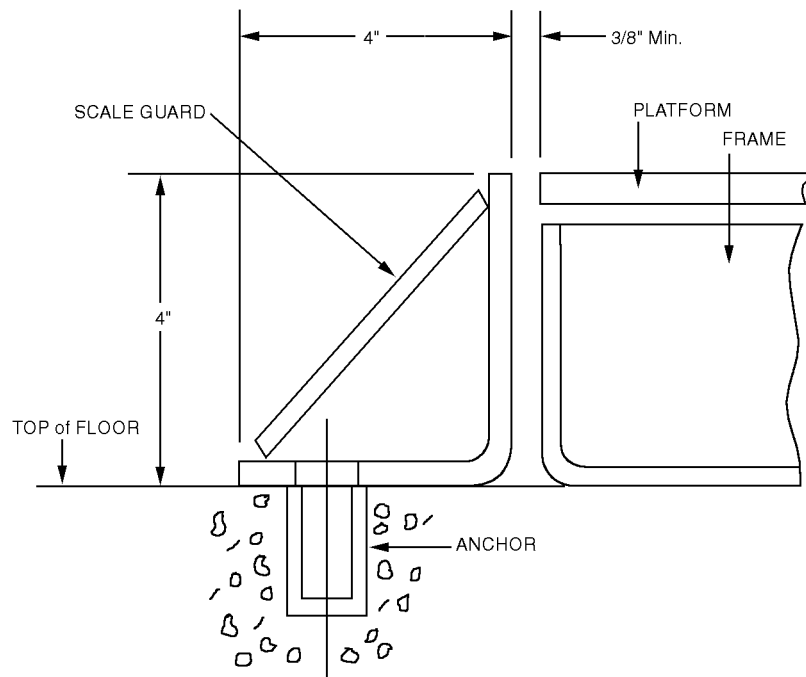

Figure 5-a Scale Guard Installation Details
3. Insert the 1/2-inch anchor bolts and tighten to secure the Scale Guard to the floor (see Figure 5-a).